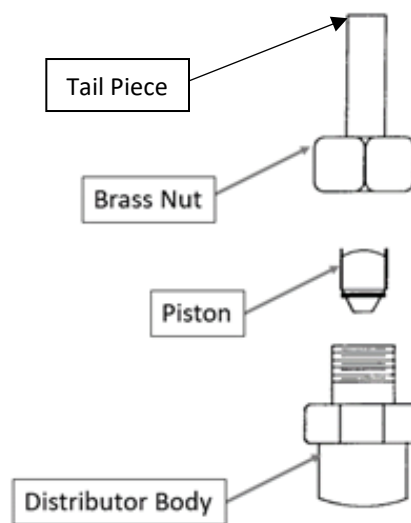

Figure 3 - Piston Removal
- 2) Remove piston/orifice from inside of distributor body and discard. See figure 3.